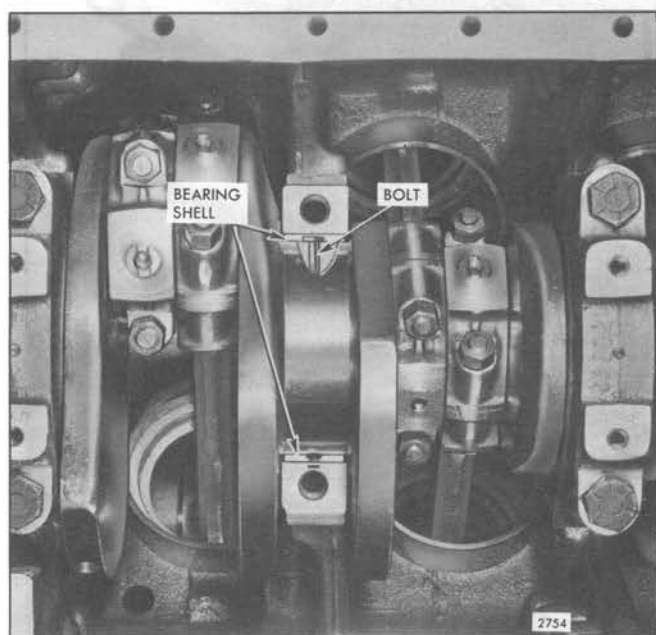

Fig. 3 - Removing Upper Main Bearing Shell (Except Rear Main)
- a. To remove all except the rear main bearing shell, insert a 5/16" x 1" bolt with a 1/2" diameter and a 1/16" thick head (made from a standard bolt) into the crankshaft journal oil hole. Then, revolve the shaft to the right (clockwise) and roll the bearing shell out of position (Fig. 3). The